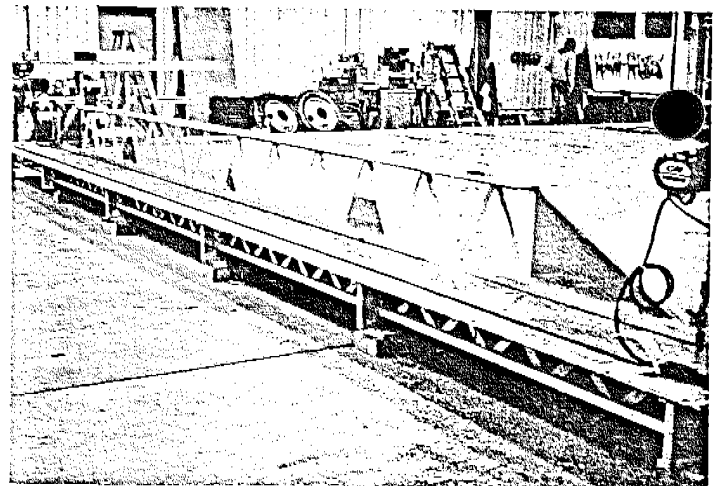

FIGURE 8
2. **ASSEMBLE SPREADER LIFT BEAM** and proceed to drop lift beam lugs into key holes in plates and slide into place. (See Figure 8).